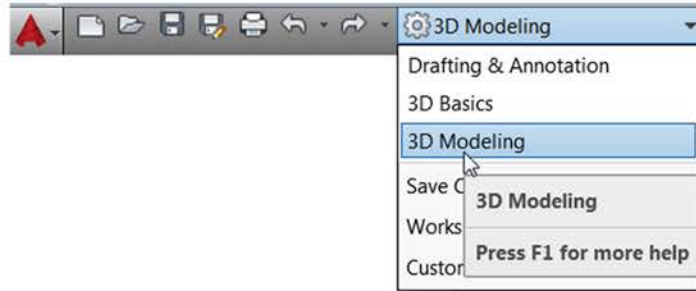

Fig. 16.1 Click 3D Modeling in the Workspace Settings menu
1. Click the **Workspace Switching** button and *click* 3D Modeling from the menu that appears (Fig. 16.1).